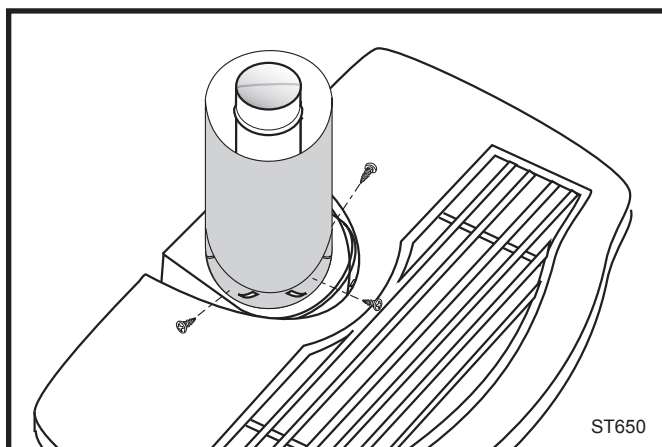

Fig. 21 Fasten outer pipe with #12 x 1/2" sheet metal screw.
5. **Install the Outer Adapter Pipe.** Insert the pipe over the stove flue collar, keeping the vertical seam oriented to the back of the stove. Also, be sure to align holes on the pipe with the holes on the flue collar of the firebox. Fasten the pipe to the holes in the flue collar with the #12 x 1/2" sheet metal screws provided. (Fig. 21)